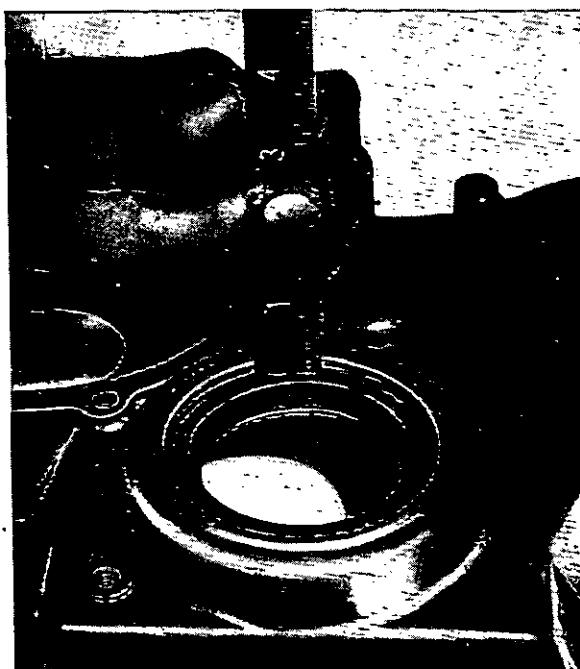

Fig. J.4. Checking Depth of Front Oil Seal.
2. Press the new seal into position from the front until the front face is  $\frac{1}{4}$  in (6,35 mm) below the front face of the timing case (Fig. J.4).